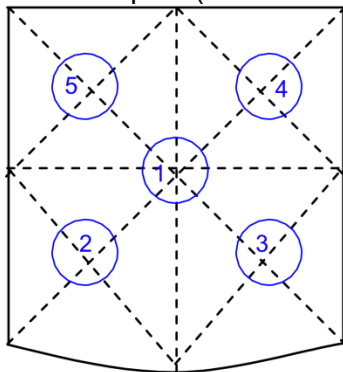

Fig. 30
- Load the weight in turn on center of the pan “1” and positions “2”, “3”, “4”, “5” located off center of the pan and finally center “1” as shown in Fig.30, and take readings.